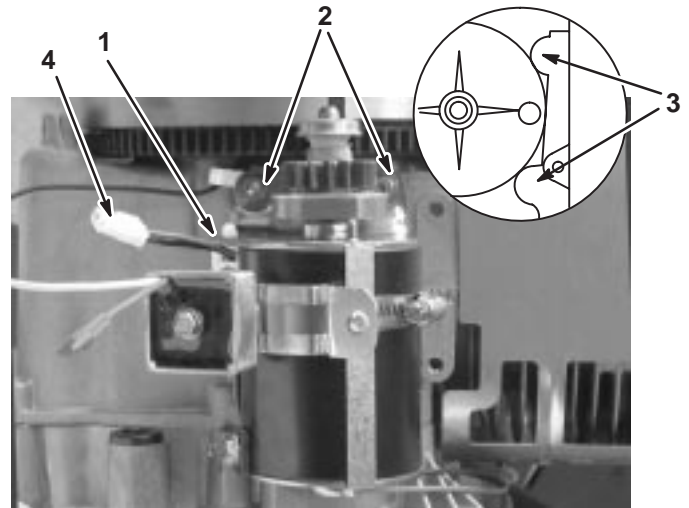

Fig. 104 – Installing Starter
1. Install starter on engine and start mounting screws. While holding starter against locating lugs on cylinder, Fig. 104, torque mounting screws to 140 in. lbs. (16.0Nm).